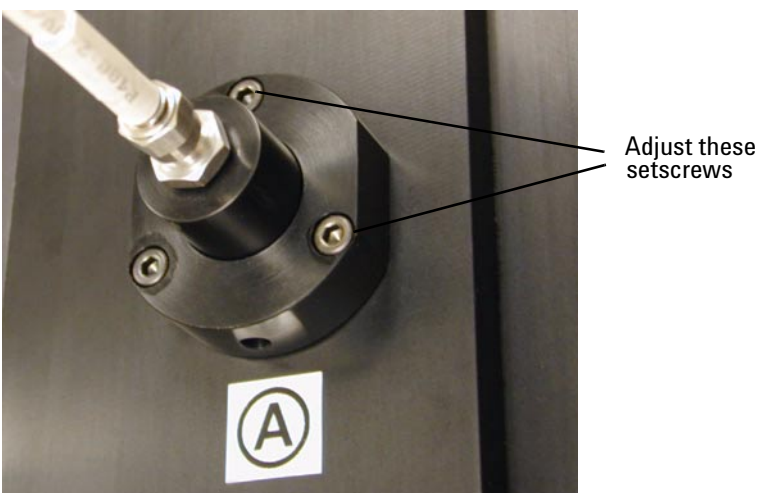

Figure 63 Turn the setscrews to adjust the laser spot location
- Using a 2.5 mm hex driver, carefully adjust the two screws indicated in Figure 63.